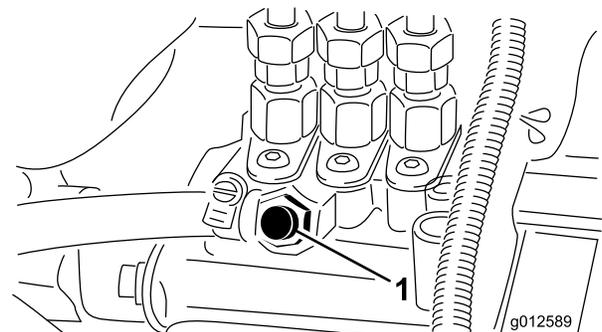

Figure 31
- Open the air bleed screw on the fuel injection pump (Figure 31).